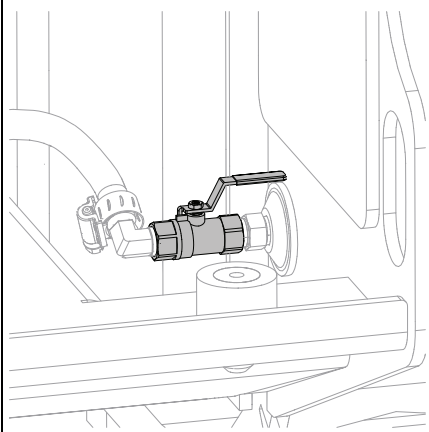

Figure 77
2. Rotate handle to open and close fuel shutoff valve. See Figure 77.